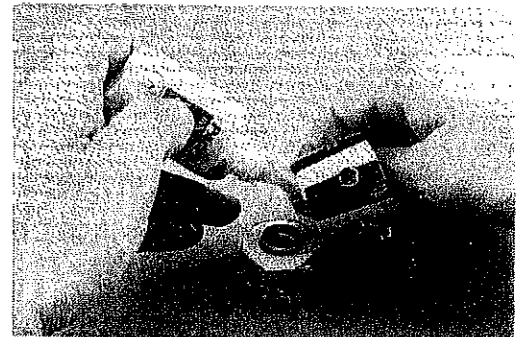

Fig. 4B
- 8a. Before proceeding, examine the new swivel retainer(34) to determine whether it requires the use of a 3/16" hex drive socket or an 11/16" nut drive socket. Install the appropriate socket onto a self limiting, inch-pounds, ratchet drive torque wrench. Preset the wrench to a torque of 96-120 inch-pounds (or 8-10 foot pounds), and keep it nearby at the ready as you perform the following steps:
- 8b. Lubricate and install the swivel o-ring(38) onto the swivel cap(39). Lay the swivel washer(37) flat onto the base of the swivel.
- 8c. Place the washer(35) onto the swivel retainer, and insert the threaded male end of the swivel retainer through the open cavity of the piston cap(36). Ensure that it seats flush, with the male end extruding through the head of the piston cap.
- 8d. Holding the swivel retainer and piston cap together between thumb and forefinger, apply one drop only of medium strength (blue) thread adhesive to the center threads of the swivel retainer. (See fig. 4B.) Very quickly, mate the piston cap and swivel retainer onto the swivel cap, so that the threads seat properly. Immediately hand tighten in a clockwise direction as snug as possible.